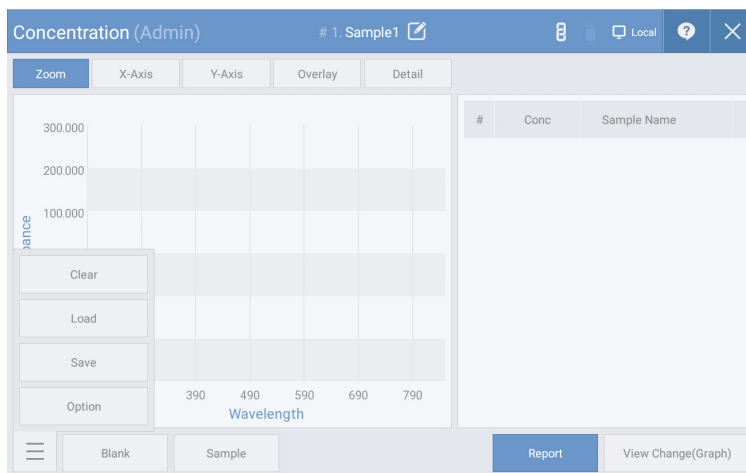

Fig. 3.10
1. Click the "Settings" button in [Fig. 3.10] to set the measurement environment.
2. Load the blank sample and click "Blank" shown in [Fig. 3.10] to measure the zero point.
4. Load the sample and click the "Sample" button shown in [Fig. 3.10] to begin measurement.